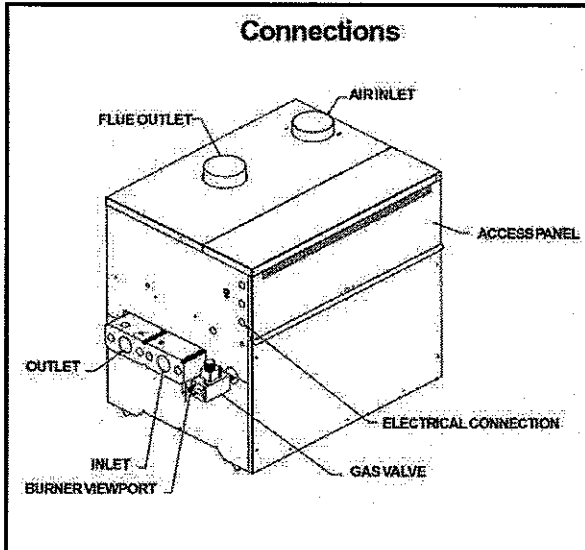

FIG. 28 Connections to the Unit
4. Install a sediment trap in the supply line to the gas control. (See Figure 28)